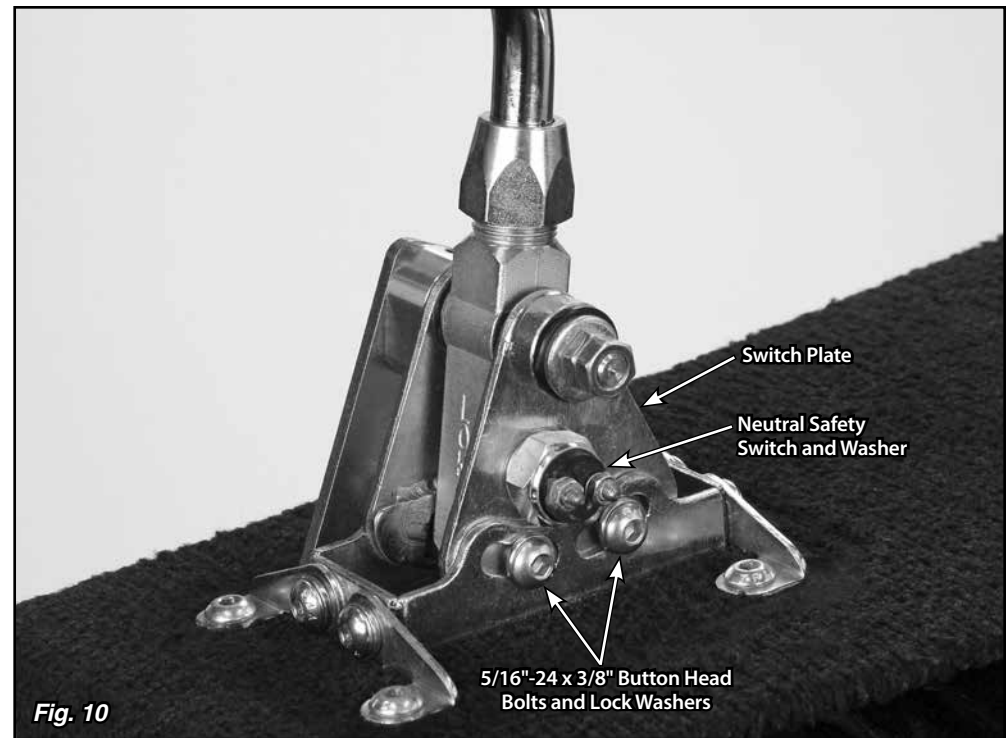

Fig. 10
Step 15: Remove the neutral safety switch and washer (**Fig. 10**) from the passenger side of the Shifter using a 7/8" wrench or socket.
Step 16: Loosen, but do not remove, the two 5/16"-24 x 3/8" button head bolts and lock washers that attach the passenger side of the floor mount mounting bracket to the switch plate (the bolts are in curved, slotted holes). **Fig. 10**